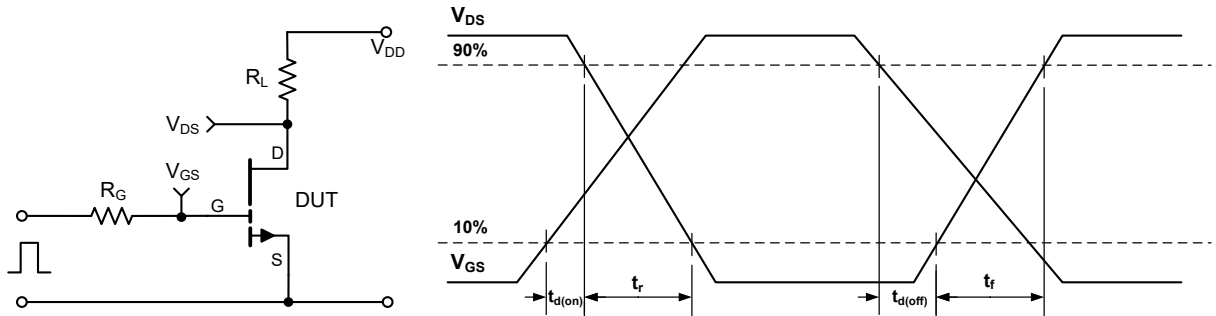

Figure 15: GS66516B switching time test circuit and waveforms
(6) See Figure 15 for timing test circuit diagram and definition waveforms.